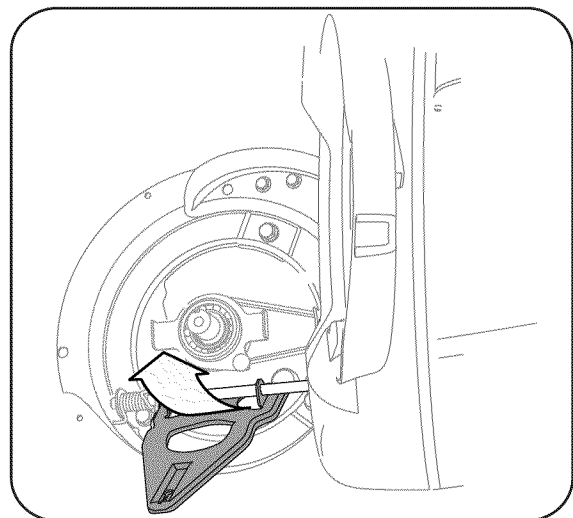

Figure 23
19. Pivot the control arm back to its original position and reinstall six-speed cable into the slot. See Figure 23.